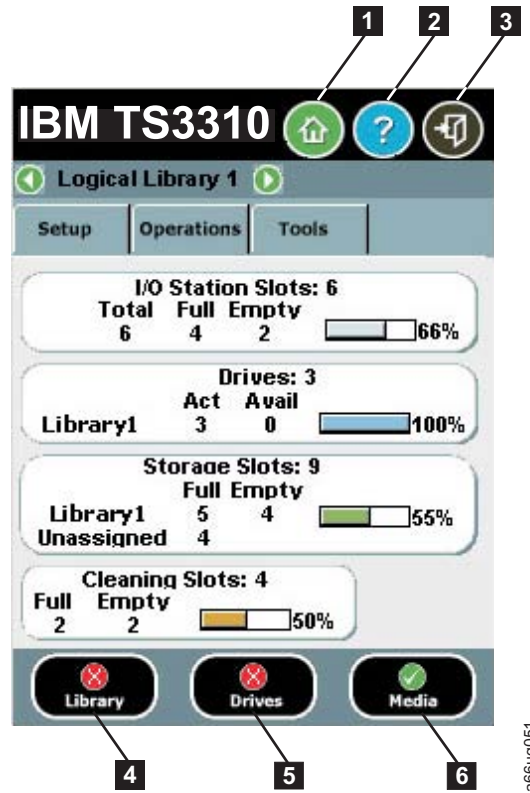

Figure 6-1. Operator Panel common header elements and subsystem status buttons
- **Home** ( 1 in Figure 6-1) - displays the default **Capacity View** screen.
- **Help** ( 2 in Figure 6-1) - context-sensitive help for the associated page
- **Logout** ( 3 in Figure 6-1) - ability to log out
- **Library** ( 4 in Figure 6-1)- opens a library menu selection screen and then the operator interventions for the library.
- **Drives** ( 5 in Figure 6-1)- opens the operator intervention screen for drives.
- **Media** ( 6 in Figure 6-1)- opens the operator intervention screen for media.